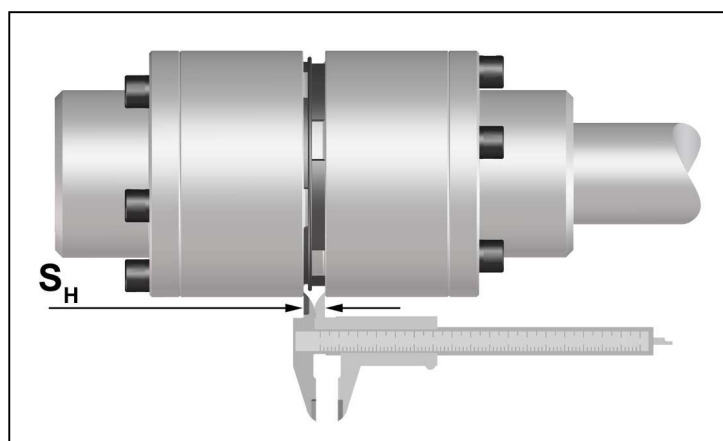

Fig. 9
- Measure, according to Figure 9 the axial gap measurement S_H .